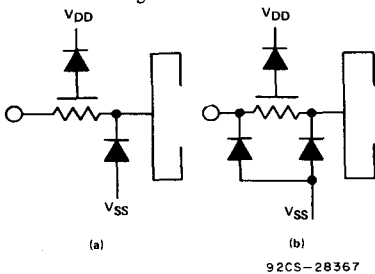

Fig. 7 — (a) Standard and (b) improved protection networks.
**Input-Leakage Current**—Input-leakage current is current that flows through reverse-biased diodes, whether intrinsic or diffused, and through the input-protection network connected to the gate. The diodes present in standard and improved protection networks are shown in Fig. 7.